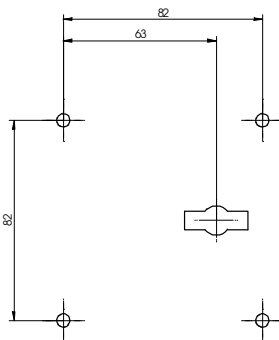

Fig. 4: Fastening hole pattern
- For installation and adjustment of the lock on the door, make sure that the key can be inserted into the lock without having to apply force and without jamming. This can be achieved by mounting the lock according to the following pattern of mounting holes (Fig. 4). For further lock dimensions please refer to the Kaba Mauer Catalogue Sheet.